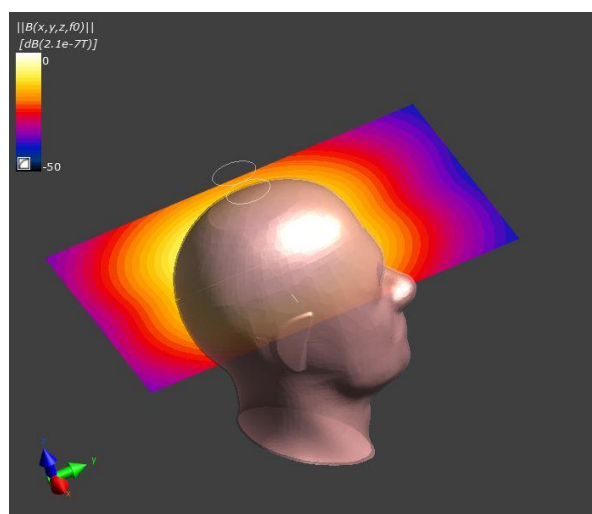

Fig. 5.Absolute B-field distribution
5. The plot should look like in fig.5.